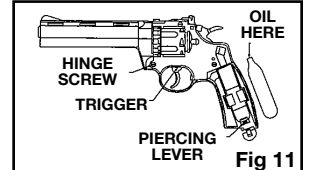

Fig 11
- Your airgun will maintain proper function longer if you oil it every 250 shots by placing one drop of oil on the piercing lever, trigger and hinge screw. (Fig. 11)